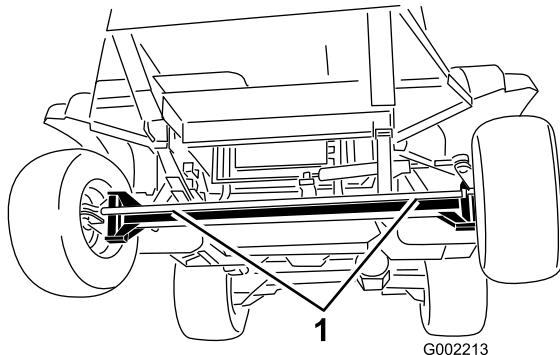
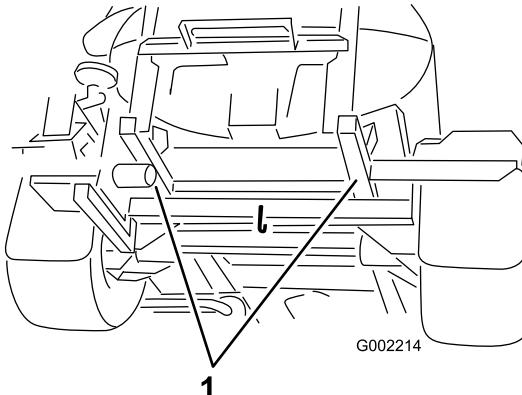

Figure 61
Figure 62
4. Affix a tow line to the frame; refer to the front and rear towing points (Figure 61 and Figure 62).